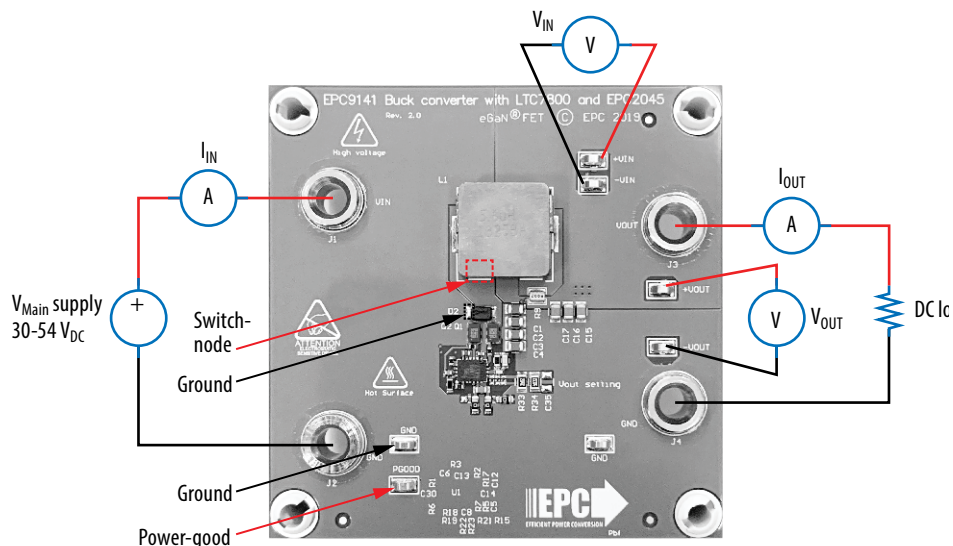

Figure 3: Proper measurement setup
1. When measuring the high frequency content switch node, care must be taken to avoid long ground leads. Measure the switch node by placing the oscilloscope probe tip on the inductor pad and bottom pad of D2 as shown in figure 3. Measuring the switch node with a high bandwidth (≥ 500 MHz) probe and high bandwidth scope (≥ 1 GHz) is recommended.